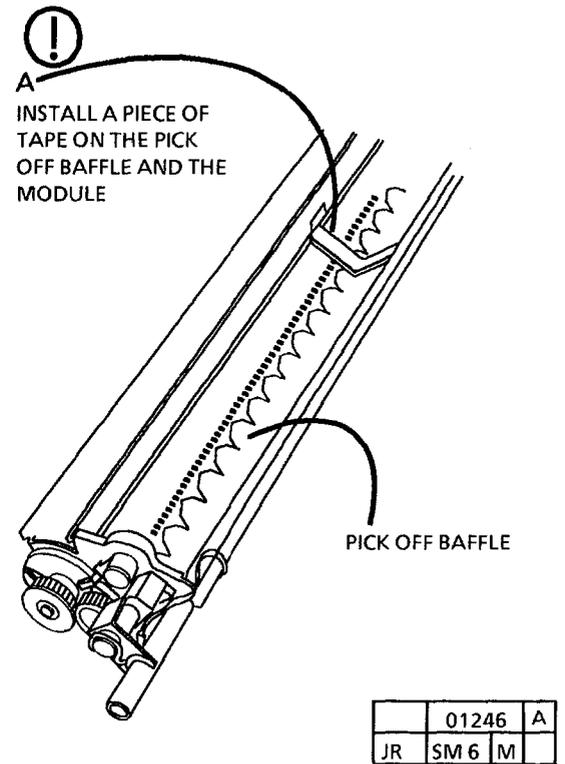

Figure 5. Tape the Pick Off Baffle
13. (FIGURE 5): TAPE THE PICK OFF BAFFLE.